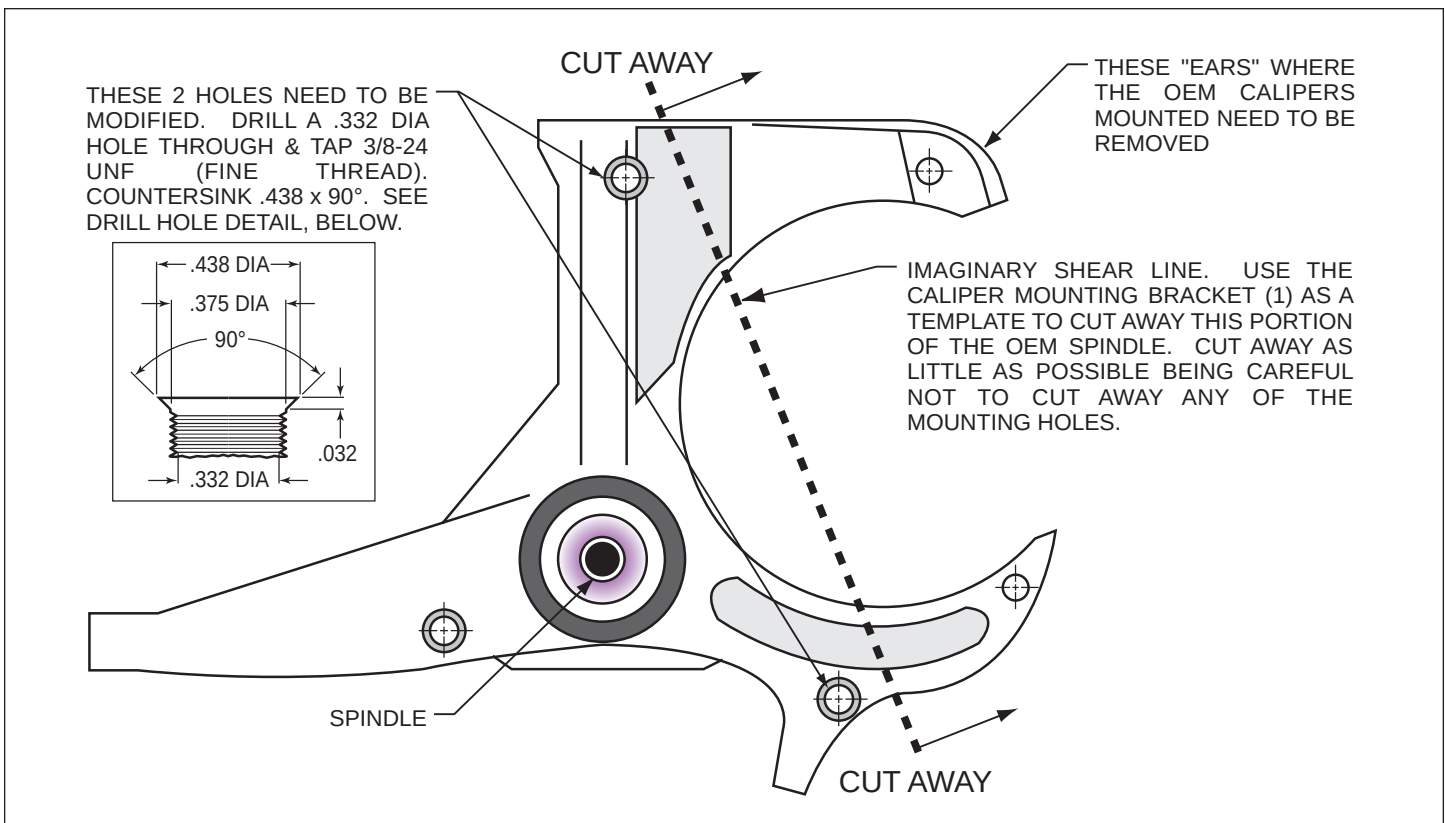
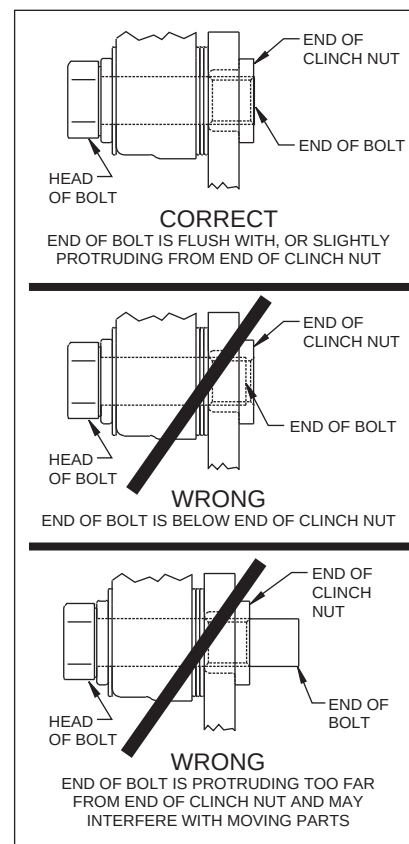

Figure 1. Steering Arm / Spindle Modifications
Figure 4.
These modifications should be performed by a qualified machinist. Refer to Figure 1 as necessary (numbers in parenthesis refer to the parts list). Only one view of the steering arm/spindle is shown, but the modifications need to be performed on both steering arm/spindles.
- Apply red *Loctite*® 271 to bolt threads (2) before assembly of the caliper bracket (1) to backing plate face of spindle. Position the caliper mounting bracket (1) onto the spindle while positioning spacers (3) between bracket and spindle face. Slip the mounting bolts (2) into the threaded spindle holes, finger tighten. Torque two bolts (2) to 30 ft-lb. **NOTE:** Be sure the heads of the caliper bracket (1) insert nuts are facing outward toward the wheel.
- Install five new wheel studs (4) into the hub (5). Torque to 77 ft-lb. **NOTE:** There are two five lug patterns in the hub (5 x 4.50 and 5 x 4.75). Make sure of the correct hole pattern for the correct wheel application before installing studs into hub.
- Pack the large inner bearing cone (6) with high temperature disc brake bearing grease (available from your local auto parts store) and install into the backside of the hub (5).
- Install the grease seal (7) by pressing into the backside of the hub (5).
- Orient the rotor (9) and the rotor adapter (8) as shown in Figure 1. Attach the rotor to the adapter using bolts (10). Using an alternating sequence, apply red *Loctite*® 271 to the threads, and torque to 25 ft-lb.
- Mount the adapter/rotor assembly (8/9) to the hub (5) using bolts (11), as shown in Figure 1. Using an alternating sequence, apply red *Loctite*® 271 to the threads, and torque to 55 ft-lb.
- Pack the small outer bearing cone (12) with high temperature disc brake bearing grease and install into front of hub (5). Slide the hub/rotor assembly (5 and 9) with outer bearing cone (12) onto the spindle. Secure using supplied washer (13), original adjusting nut and nut locking device.
- Install the dust cap (15) onto the hub (5). Friction created by the o-ring (14) on the dust cap (15) keeps it from unscrewing. The O.D. of the existing spindle washer may be larger than the I.D. of the dust cap (15) not allowing it to seat against the hub face. Therefore, use the spindle washer (13) supplied with the kit instead of the stock washer.
- NOTE:** Please reference the caution statement at the beginning of the assembly instructions. This kit contains distinct right and left hand calipers that must be mounted in a specific direction, as described below. Mount the caliper (16) onto the caliper bracket (1) using bolts (18) and washers (17), as shown in Figure 1. Initially place two .032" thick shims (19) on each bolt between the caliper and the bracket. Ensure that the caliper is mounted so the largest pistons are at the rotor exit end of the caliper, in relation to the direction of rotor rotation. Temporarily tighten the mounting bolts and view the rotor (9) through the top opening of the caliper. The rotor should be centered in the caliper. If not, adjust by adding or subtracting shims (19) between the bracket and the caliper. Always use the same amount of shims on each of the two mounting bolts. **NOTE:** The end of the bolt must be flush with or slightly protruding from the head of the clinch nut in the bracket. If necessary, place spare shims between the washer and the caliper mounting ear to achieve the proper clinch nut engagement, as shown in Figure 4. Once the caliper alignment and clinch nut engagement are correct, remove the bolts one at a time, apply red *Loctite*® 271 to the threads, and torque to 40 ft-lb.
- Install the disc brake pads (20) into the caliper (16). Secure the disc brake pads to the caliper utilizing the pad clip retainer (21).